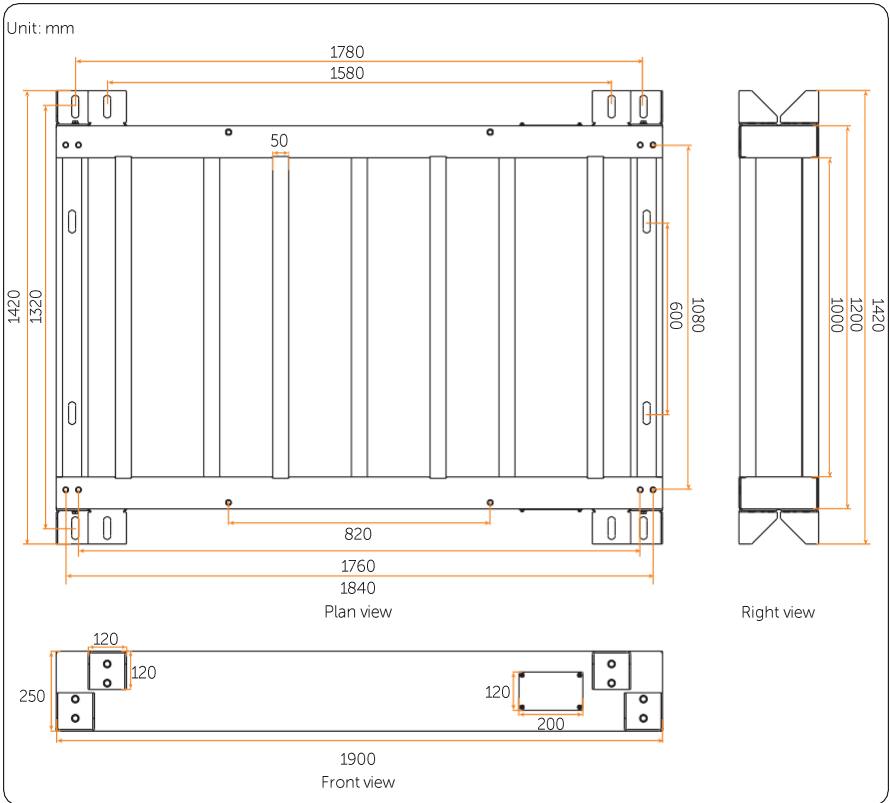

Figure 4-5 Dimension of steel foundation
- Single cabinet (see Figure 4-5)